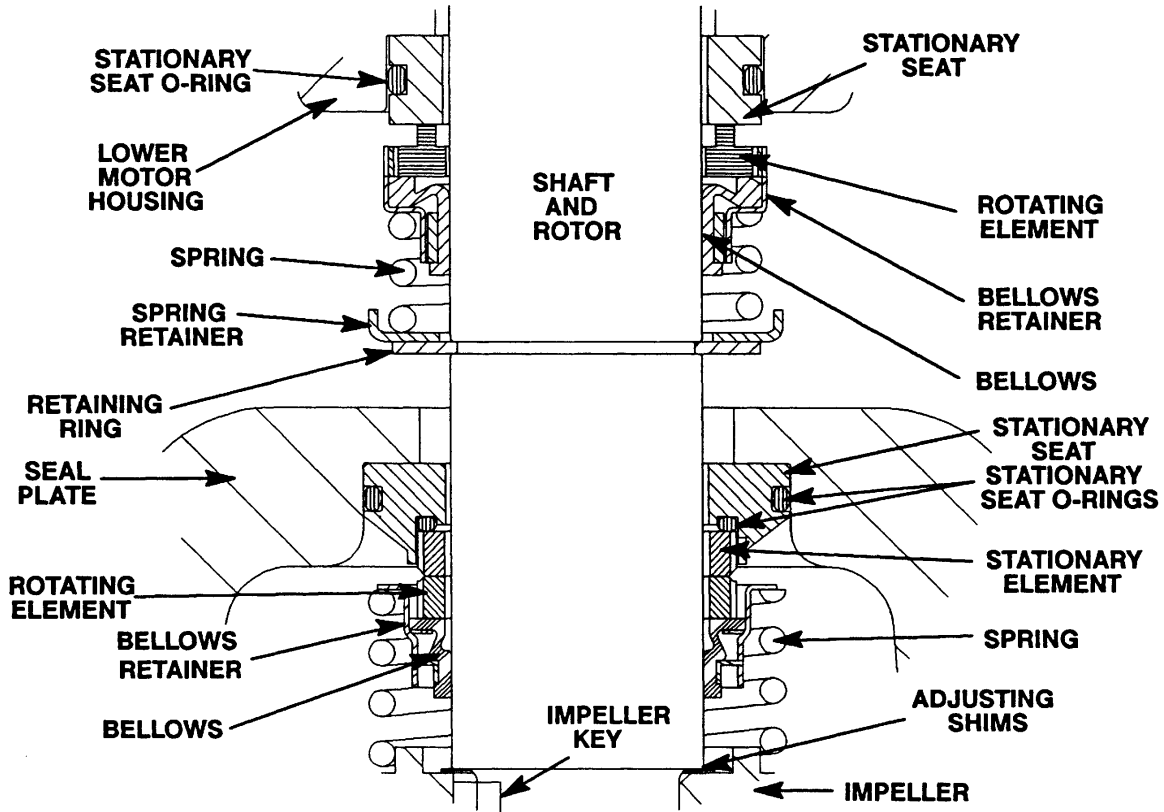

Figure 4. 46512-076 (Lower) And 25271-886 (Upper) Seal Assemblies
Install the shaft seals as illustrated in Figure 4.
Slide the seal spring over the shaft and bellows retainer, and install the spring retainer (32). Install the seal retaining ring (33). See Figure 4 for proper order of seal assembly.
Slide the seal spring over the shaft and bellows retainer. See Figure 4 for proper order of seal assembly.